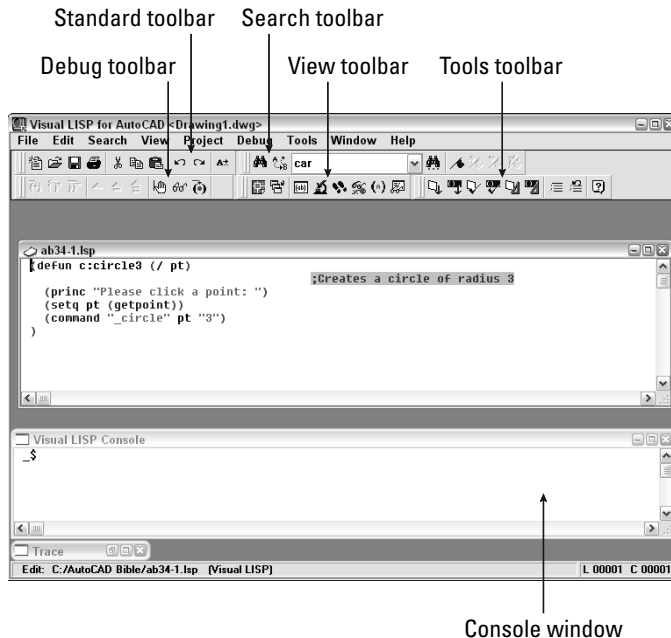

**Figure 34-1:** An AutoLISP file open in its own window in the Visual LISP window.
To start Visual LISP, you can either type **Vlisp** ↵ at the AutoCAD command prompt, or choose Tools ⇨ AutoLISP ⇨ Visual LISP Editor. At any time, you can switch to Visual LISP using either of these methods. Figure 34-1 shows the Visual LISP screen with an AutoLISP file open.
3. Click Open. Visual LISP opens the file in its own window, as shown in Figure 34-1.